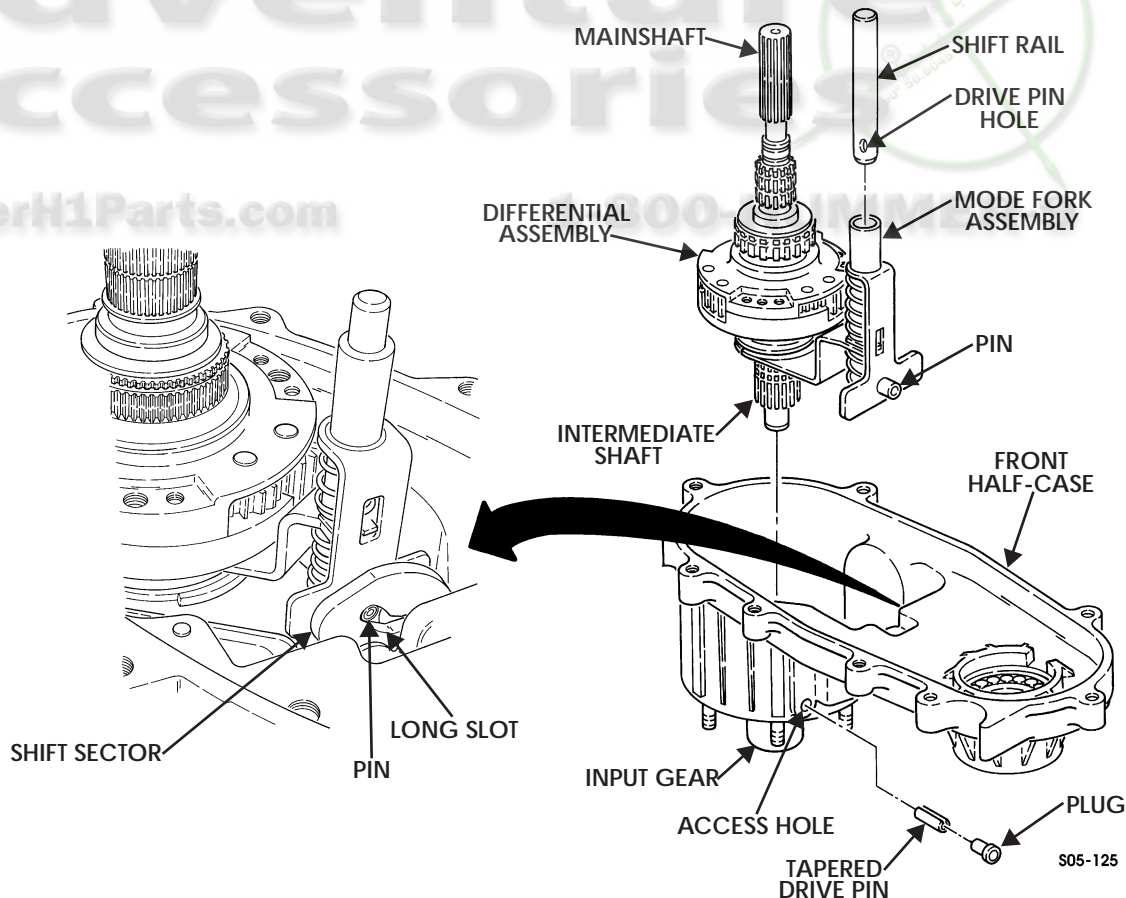

Figure 5-178: Shift Sector
17. Slide mode shift sleeve onto mode fork (Figure 5-178).